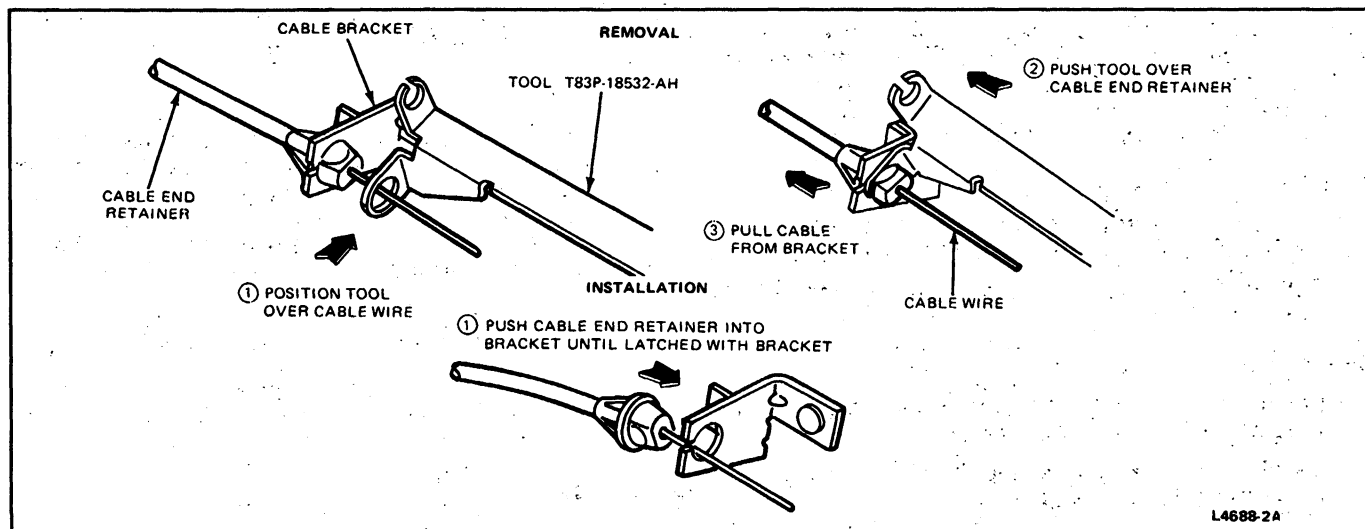

FIG. 17 Control Lever Cable Removal and Installation
7. Remove temperature control cable from control assembly. Disconnect bullet-type cable retainer from the bracket using the Control Cable Removal Tool T83P-18532-AH (Fig. 17) or needlenose pliers to compress the retaining ears. Both cable "S" bends are removed from the bottom side of the levers by rotating cable wire 90 degrees to the lever.
1. Connect temperature and function control cables to the control assembly (Fig. 17).